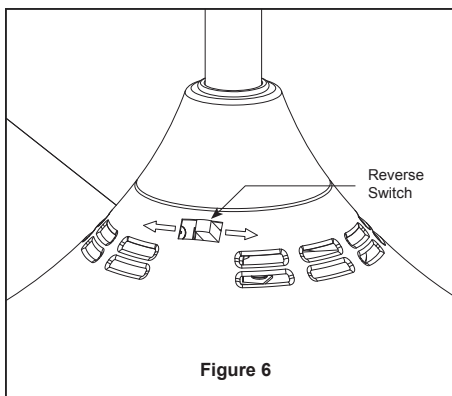

Figure 6
- ☐ 6. Secure the glass to light kit by twisting in a clockwise direction. Twist the glass gradually **until it snaps onto the light kit**. Do not over-tighten. (Figure 6)
- ### ☐ 6. If airflow is desired in the opposite direction, turn the fan off and wait for the blades to stop turning. Then slide the reverse switch on top of motor assembly to the opposite position and turn fan on again. (Figure 6)